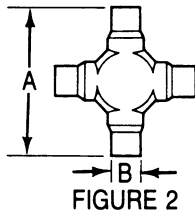

FIGURE 2
4. If more information is needed, measure dimensions "A" and "B". These dimensions may vary between manufacturers. Figure 2.
4. If more information is needed, measure dimensions "A" and "B". These dimensions vary between manufacturers. Figure 2.